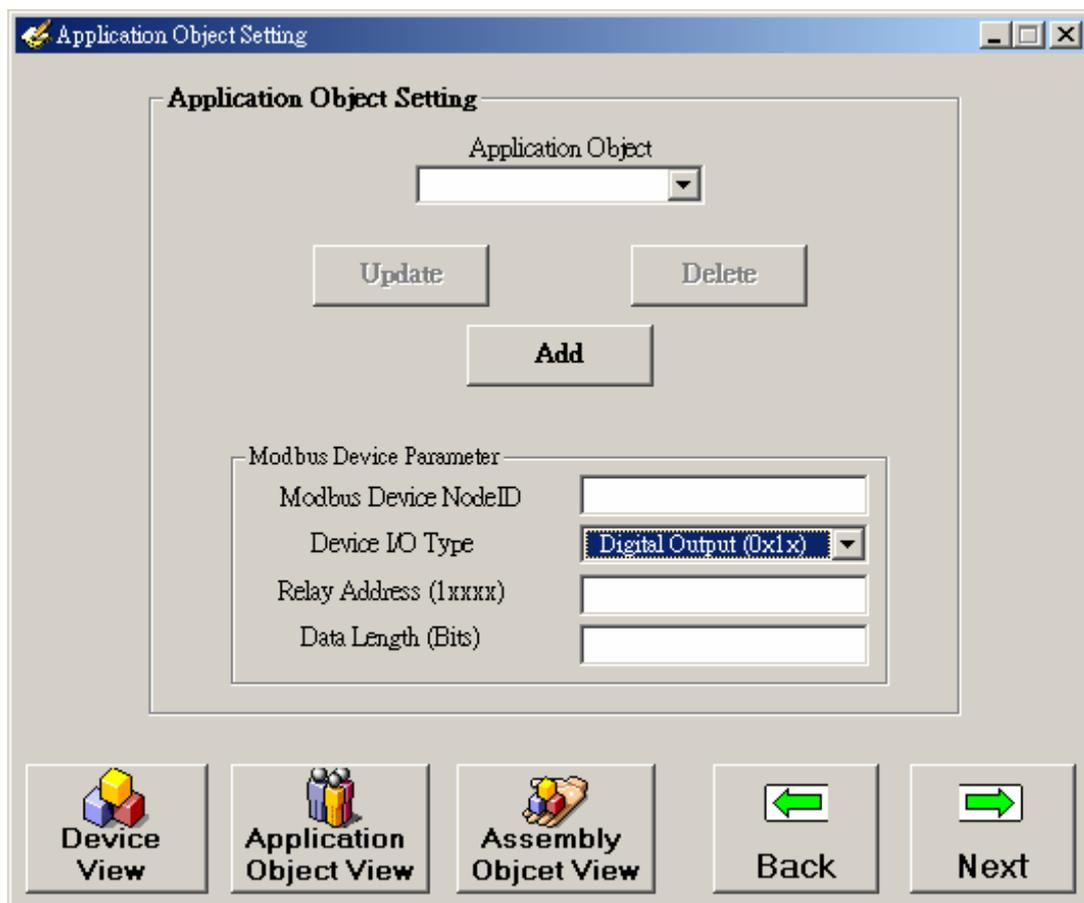

Figure 6-22. “Application instances Setting”
Step 8: Press the “Next” button, , to display the “Application Object Setting” frame as figure 6-22. Users can use the add button, erase button, update button or delete button to modify their Modbus devices parameters that they want to use to communicate.